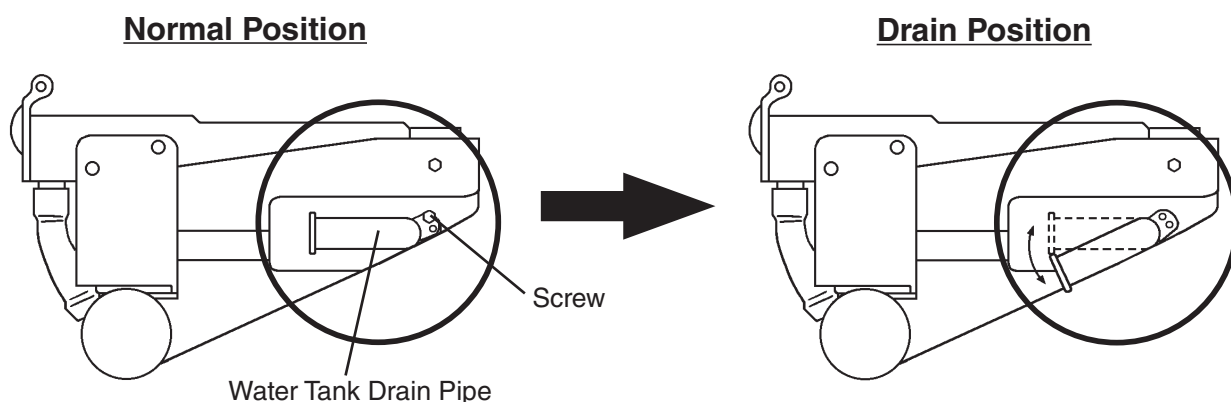

Fig. 3
- 3) Remove the screw, then move the water tank drain pipe to the drain position. See Fig. 3. Use the screw to secure the water tank drain pipe in the drain position.
- 3) Remove the screw, and move the tank drain pipe to the drain position. See Fig. 3.
- 10) Move the tank drain pipe to the normal position and then secure it with the screw. See Fig. 3.